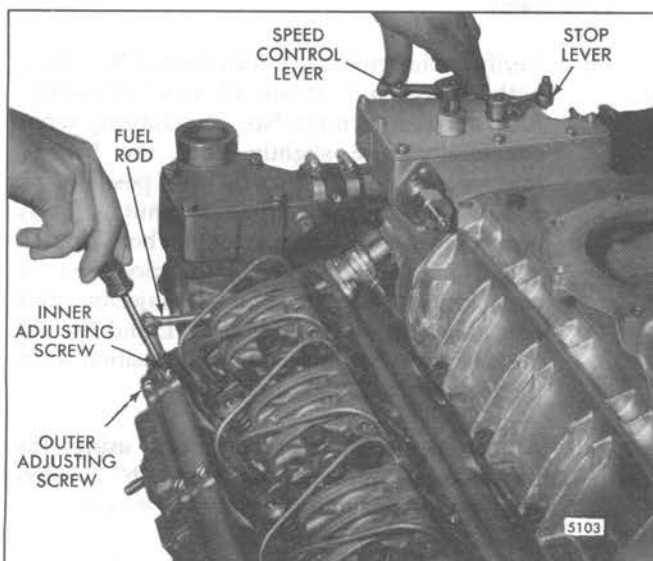

Fig. 8 – Positioning No. 1 Injector Rack Control Lever (Two Screw Assembly)
6. Move the speed control lever to the *maximum speed* position and hold it in that position with light finger pressure (Fig. 8 or 9).
Turn the inner adjusting screw of the No. 1L injector rack control lever down until a slight movement in the control tube lever is observed or a step-up in effort to turn the screwdriver is noted (Fig. 8). This will place the No. 1L injector rack in the *full-fuel* position. Turn down the outer adjusting screw until it bottoms lightly on the injector control tube. Then, alternately tighten both the inner and outer adjusting screws.